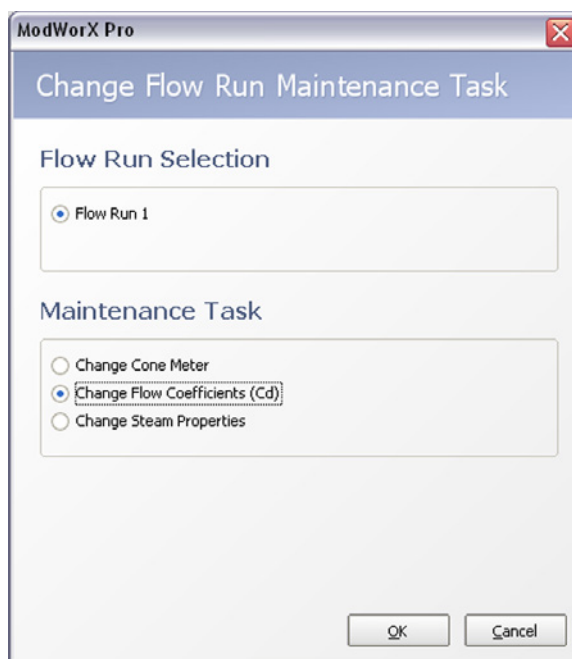

Figure 10.12
1. If Change Steam Properties is not displayed in the Maintenance Task field at the top of the Maintain Flow Run screen, click on **Change Task**. The Change Flow Run Maintenance Task dialog will appear (Figure 10.12, page 149).